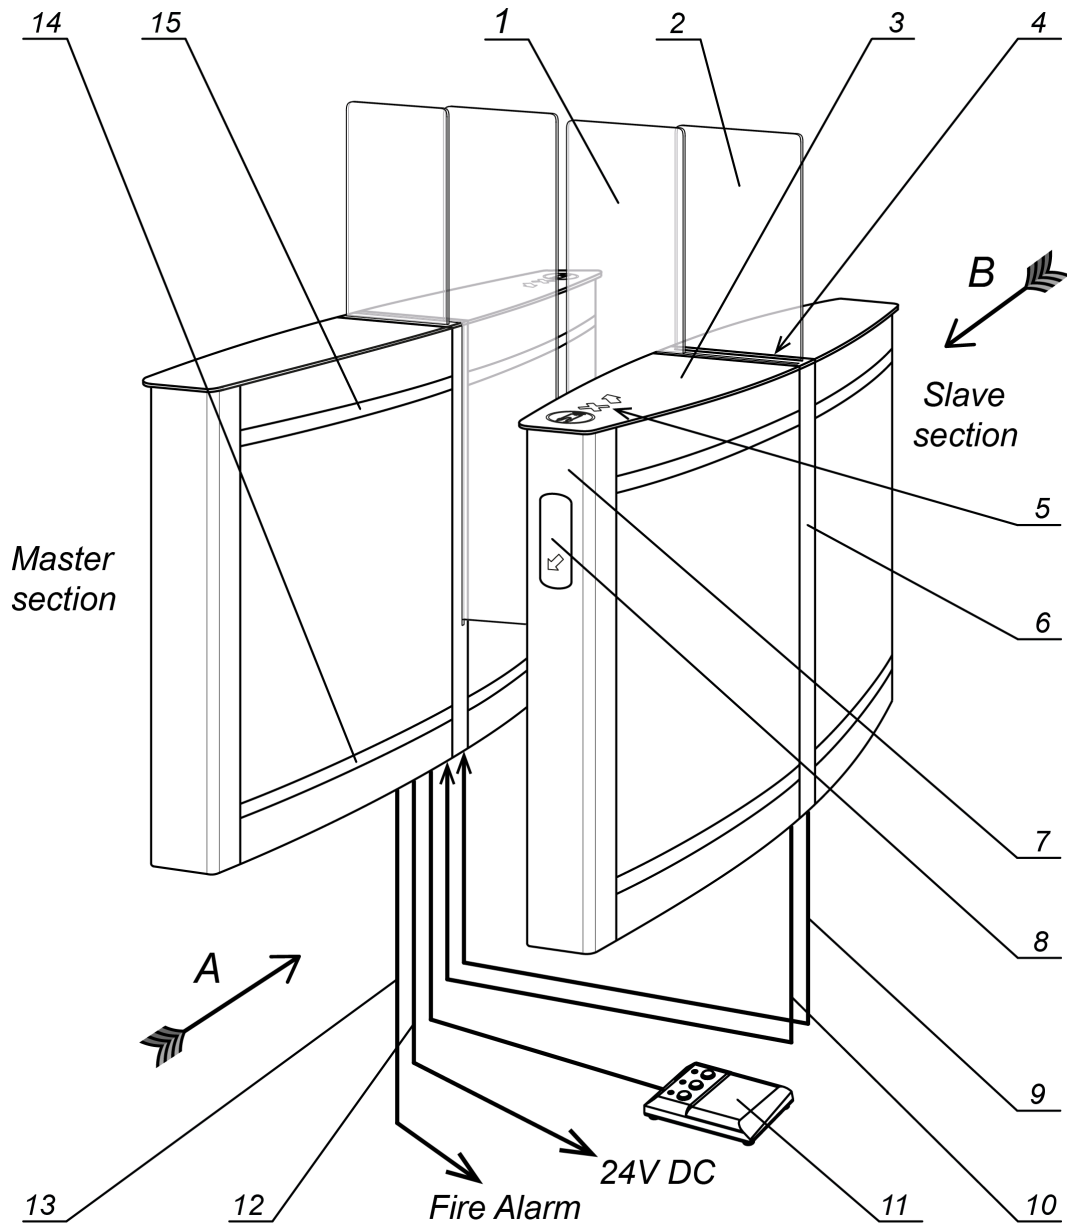
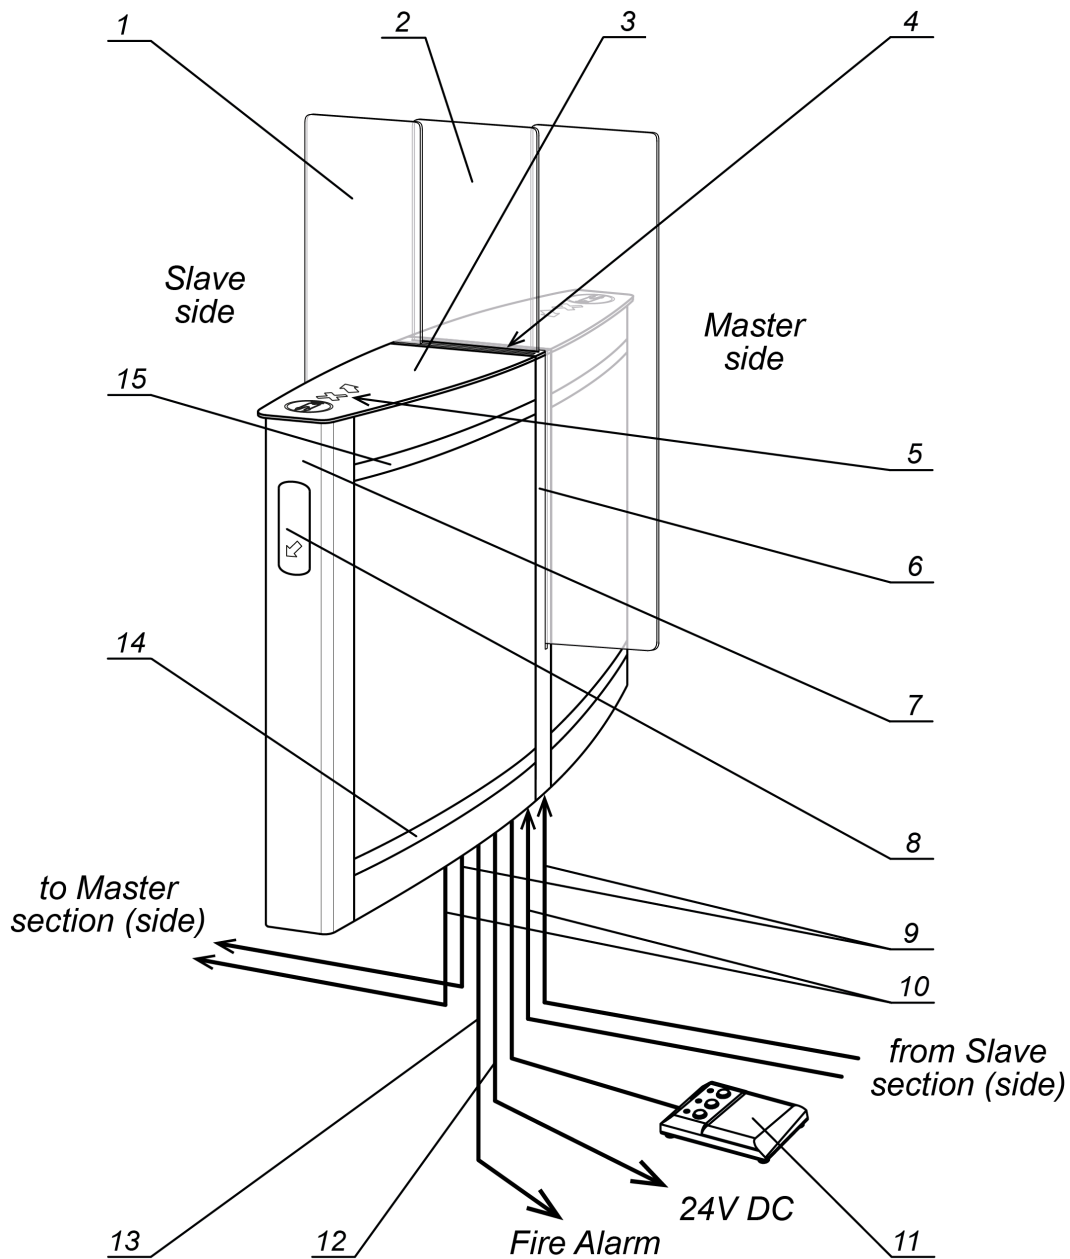

Figure 3. ST-02 overall view
Figure 4. STD-02 overall view
The speed gate design is shown in Fig. 3, the double-sided section is shown in Fig. 4 . The numbers of the parts in the text are shown in accordance with Fig. 3 and 4.
In order to increase the number of passage lanes, it is necessary to install double-sided sections. Each double-sided section is also equipped with the RC-panel (11). It has two sliding panels (1): on the *Master* side and *Slave* side. Each sliding panel is driven by its electric drive. The *Slave* section of the speed gate (the *Slave* side of the next double-sided section) is connected to the *Master* side with two connection cables (9, 10) from the speed gate delivery set (double-sided section) (see Fig. 4).